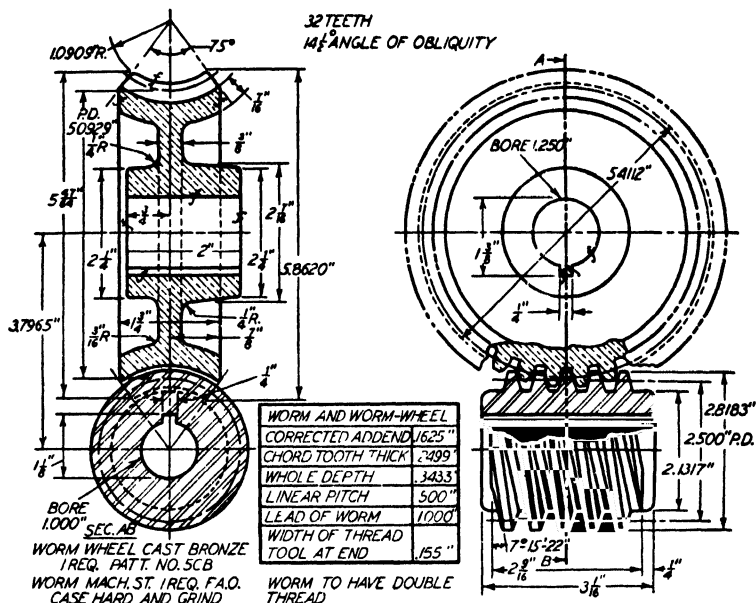
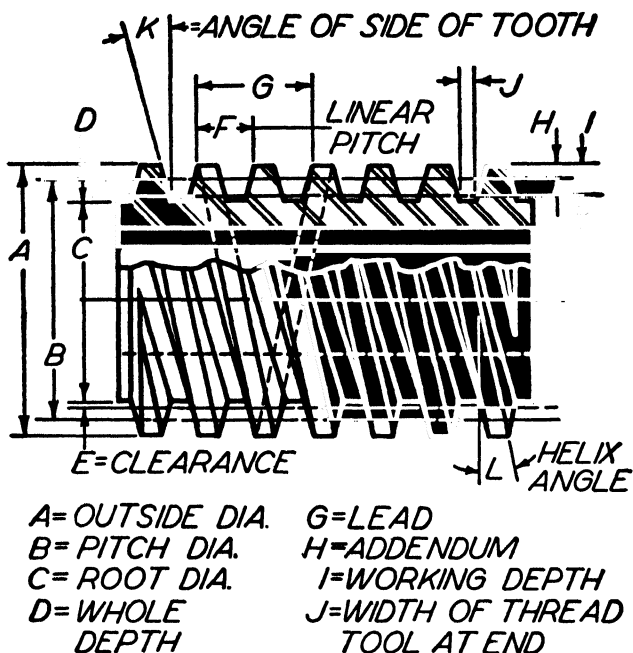
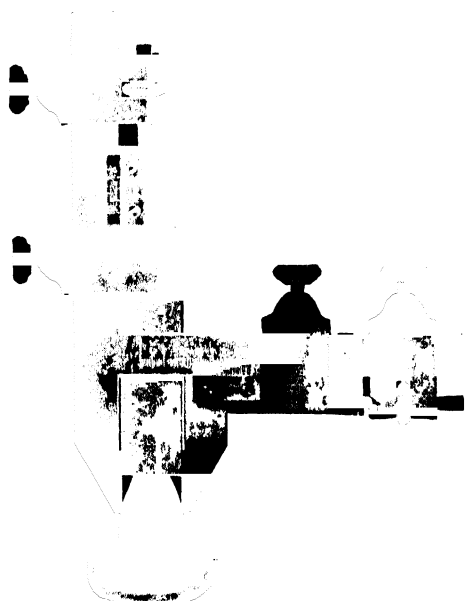

Fig. 40. Working Drawing of a Worm Gearing
Fig. 41. Nomenclature of Worm
Fig. 44. Measuring Chordal Tooth Thickness and Corrected Addendum
Worm Gearing. This worm gearing consists of a worm-wheel and a worm in mesh. The working drawing of the worm gearing, Fig. 40, has two views—a sectional elevation, indicated as "*SEC. AB*," and a side elevation. In the side elevation, the upper part of the worm indicating the threads and the lower part of the worm-wheel are shown in section in order to make clear the design of the teeth. Figs. 41 and 42 give the names of the various parts of the gear and worm.
In Fig. 40, the outside diameter of the worm-wheel is indicated by a dash and double dot, but some draftsmen use a full line to indicate this circle. The throat diameter of the worm-wheel, which is 5.4112", is indicated by a dotted circle. The pitch diameter, which is 5.0929", is indicated by a dash and
dot circle. The bottom of the worm-wheel teeth is indicated by the same type of line as the outside diameter. In the worm gearing, Fig. 43, arms are shown; whereas in Fig. 40, $\frac{3}{8}$ " web is shown.
Now let us study this working drawing, Fig. 40, in connection with the job of the lathe hand. First, he must know the diameter to which the worm is to be turned and the length of the worm.
It is extremely important to know the corrected addendum and chordal tooth thickness, when machining the teeth. The corrected addendum and chordal tooth thickness are measured with an instrument, as shown in Fig 44, and you will find the dimensions in the tabulation between the two views, Fig. 40. The dimension for the corrected addendum is to be .1625" and the chordal tooth thickness is to be .2499".
7. To what dimensions would you set the measuring instrument, Fig. 44, for measuring the chordal tooth thickness and the corrected addendum?